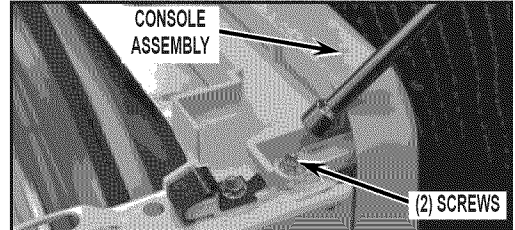

FIGURE 3
4. Remove console by first removing two (2) screws (one from each side of console) at location as shown in *Figure 3*.